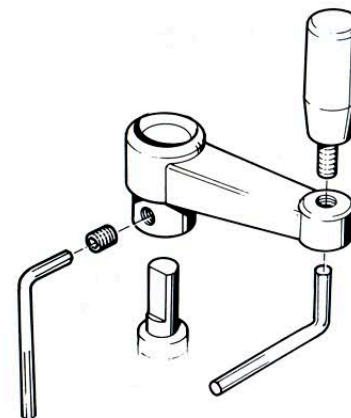

Fig. 6
Mount the handle (D) to the cross-arm, according to fig. 6. Loosen knob (A) completely. Turn the gear-lever (D) counter-clockwise till endstop. Unscrew screw (B) and turn the coverplate (I) down. Slide the strap (C) leftwards, to uncover the two holes. The wedges (F) can now be placed into the slots (H) of the sliding piece. If needed you can give it more space by unscrewing the wedges a few millimeters. The cross-arm needs to be lowered until the edge (L) is located in slot (K).
- C. Mount the column to the base with the parts supplied with the base. One leg of the base. One leg of the base has no wheel, just a rubber pad to locate the stand on its place. The bar (B) must be mounted to hole (D) by screwing it in clockwise. Please note that when mounting the column to the base, this bar has to point in the direction of the leg without the wheel, to make the stand easy to move.
- D. Mount the tray to the extending pin (E) by removing the knob (F), sliding the tray on the pin, and mount the knob again. The pin is delivered pointing downwards, it is possible to unscrew the pin and mount the pin pointing upwards, which gives you a higher position of the tray.
- E. Mount the gear lever (A) to the stand according to figure 6. The stand is now ready for use. The connection clamp takes most accessories as used for the Cambo UST studio stands that are needed to support the camera.